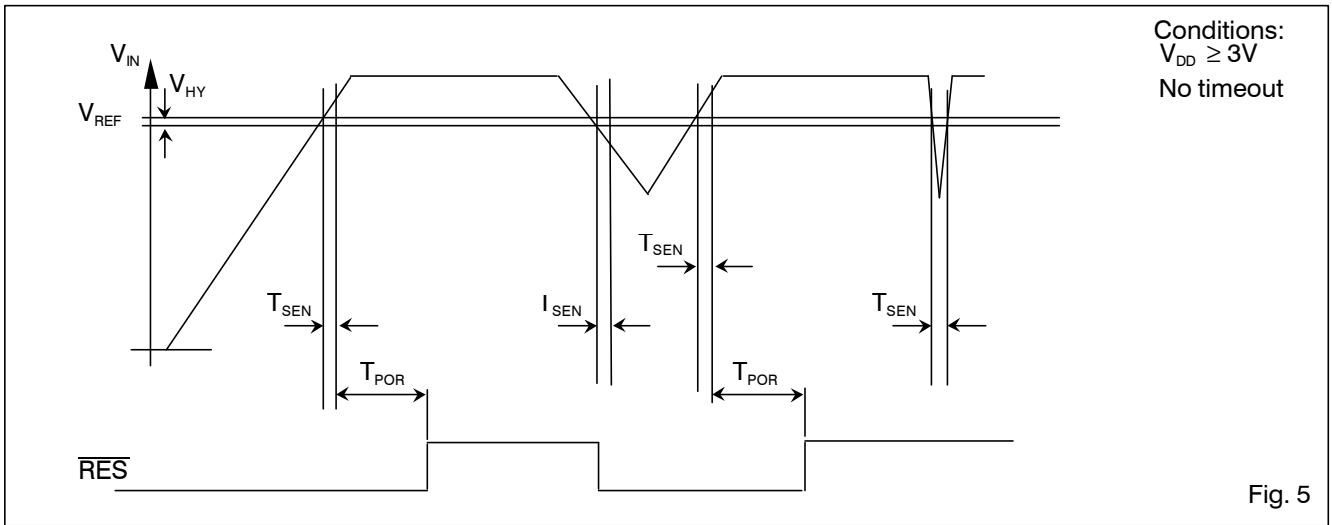

Fig. 5
1)The comparator reference is the power-down reset threshold. The power-on reset threshold equals the comparator reference voltage plus the comparator hysteresis (see Fig. 5).
At power-up the reset output (RES) is held low (see Fig. 5). When VIN becomes greater than VREF, the RES output is held low for an additional power-on reset (POR) delay